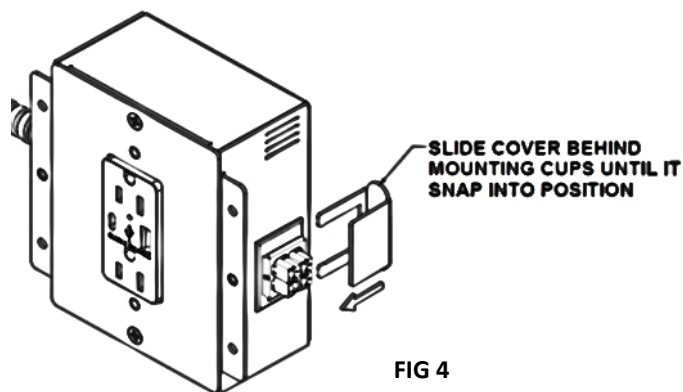

FIG 4
8. Attach the End Cap (D) to the past unit in the circuit if desired (FIG 4).